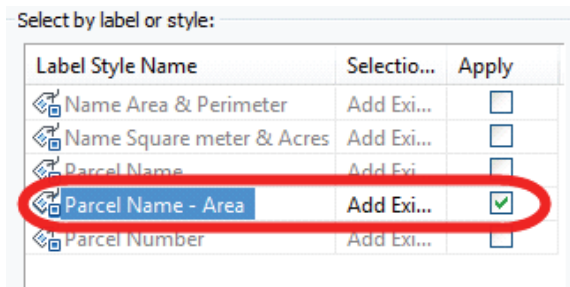

Figure 2–66
- Click a location to insert the table into the drawing, as shown in Figure 2–67.